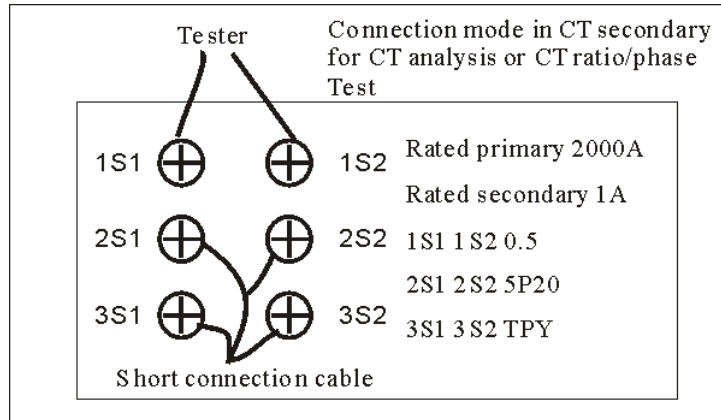

Figure 3.4.1 Short connection for CT analysis and ratio/phase test
**Warning: Please short connect other non-test secondary windings for CT that have multiple secondary windings while the rated primary and secondary current are the same in CT analysis or ratio test. For example, one sample CT which has three secondary windings as figure 3.4.1. When the winding 0.5 class is being tested, please short connect the 10p and TPY windings as figure 3.4.1**